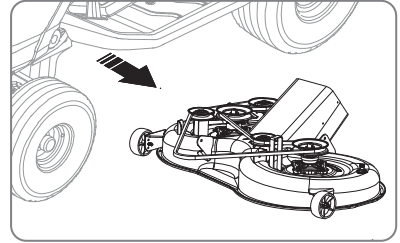

Fig. 52
Fig. 52. When installing the cutterhead, please ensure that the bracket is in the connected position, and the mounting plate (A) on the right cutterhead should be on the right side of the assembly plate (D) on the entire machine; The mounting plate (B) on the left cutterhead should also be on the right side of the assembly plate (C) on the entire machine.